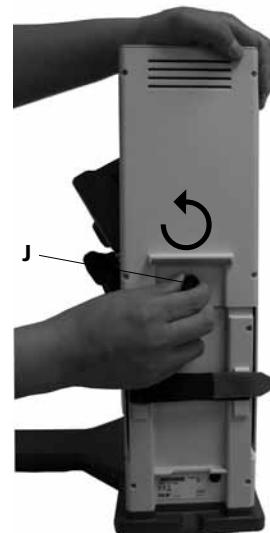

Fig. 8
2.) Remove transportation lock (Fig.8)